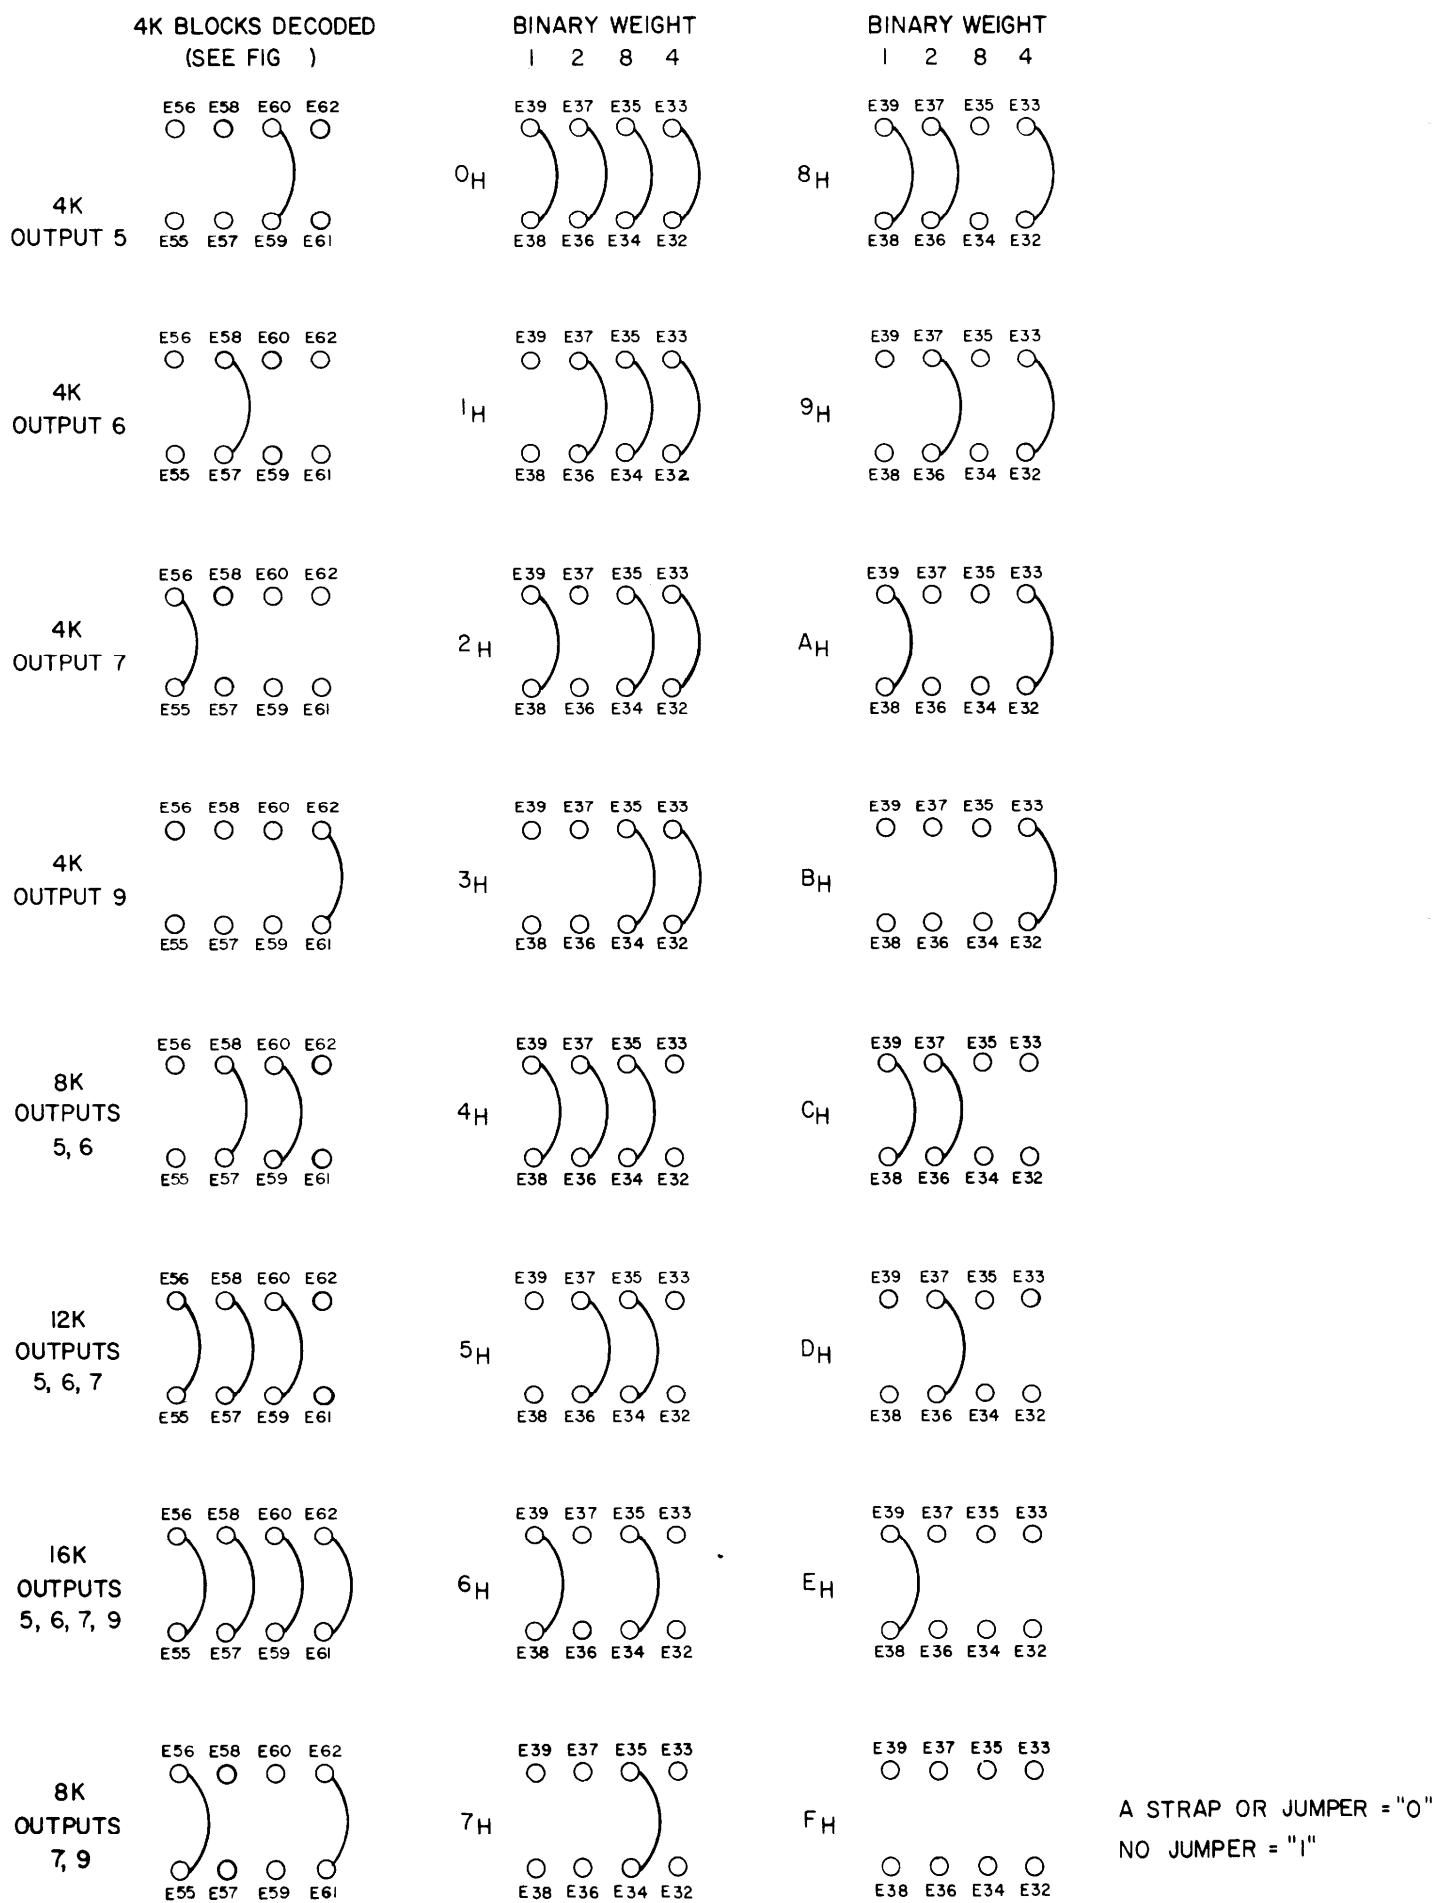

Figure 18
- (4) Figure 18 shows the connections that determine the memory space decoded for the four User ROM/PROM Sockets and the particular allocation of this space to each socket.
Figure 18 is divided into two parts; the left hand column labeled "4K" BLOCKS DECODED: and the right hand two columns labeled "JUMPERS"